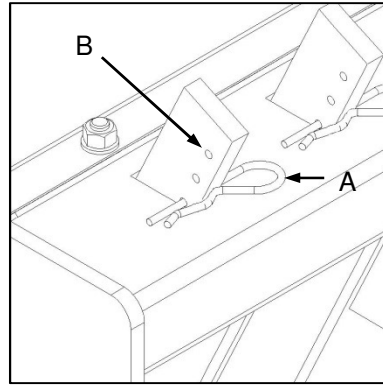

Fig. 5
- ✔ Remove the R-clip (Fig. 5-A), lift or lower the tine to its required position and re-insert the R-clip into an appropriate hole (Fig. 5-B). Ensure that all tines are adjusted equally.
- ✔ Verwyder die R-knip (Fig. 5-A), lig of laat sak die tande tot die vereiste posisie en plaas die R-knip in 'n geskikte gat terug (Fig. 5-B). Verseker dat al die tande dieselfde gestel is.